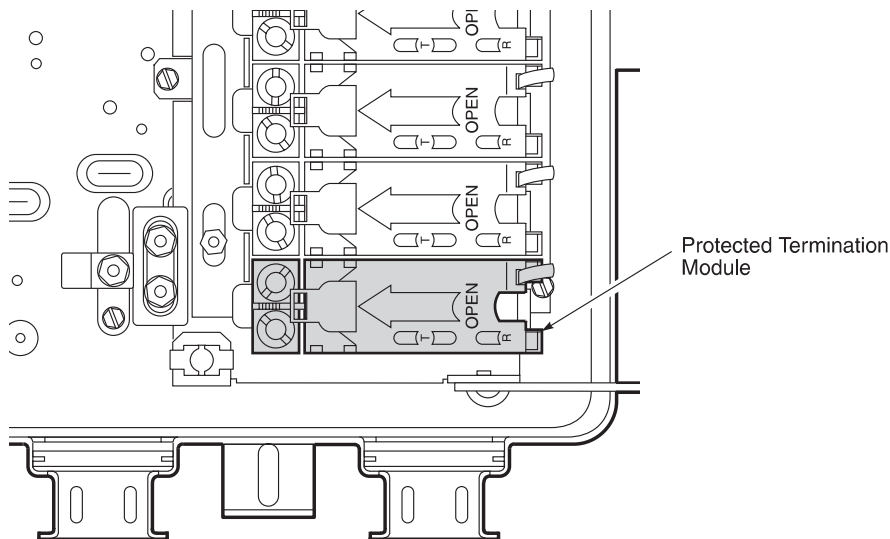

Figure 9. Inserting the POTS Wires
- 1 Lift the appropriate Protected Termination Module door (Figure 9).